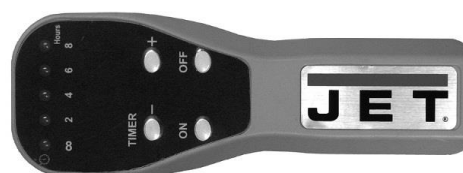

Figure 16
To clear the remote controller, press and hold reset button (C, Figure 16) for 3 seconds until receiver “beeps” 3 times.
1. Press reset button (C, Figure 16) for 1 second until receiver “beeps” once.
3. Press and hold reset button (C) for 3 seconds until receiver “beeps” 3 times.